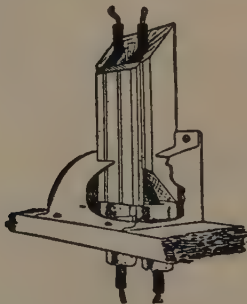

FIG. 873.—“Kick box;” a device used to protect wires encased in porcelain tubes where they pass through floors.
**Ans.** A fitting, as shown in fig. 873, for protecting wires at the points where they enter or emerge from the floor.